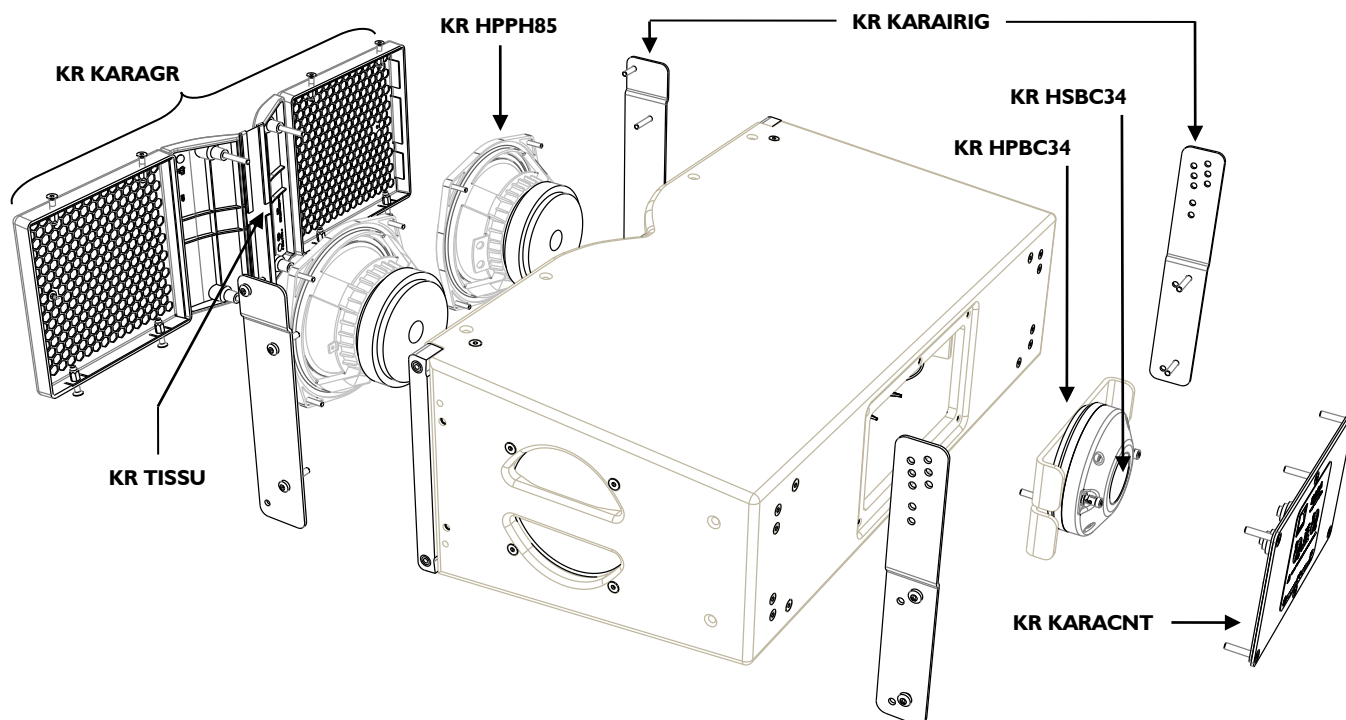

Figure 15: KARAI exploded view
The replacement kits (KR) available for the customer are shown in Figure 15 and listed in Table 6 with reference to the corresponding service procedures. Table 7 is a list of all tools and material needed for KARAI service (not included).